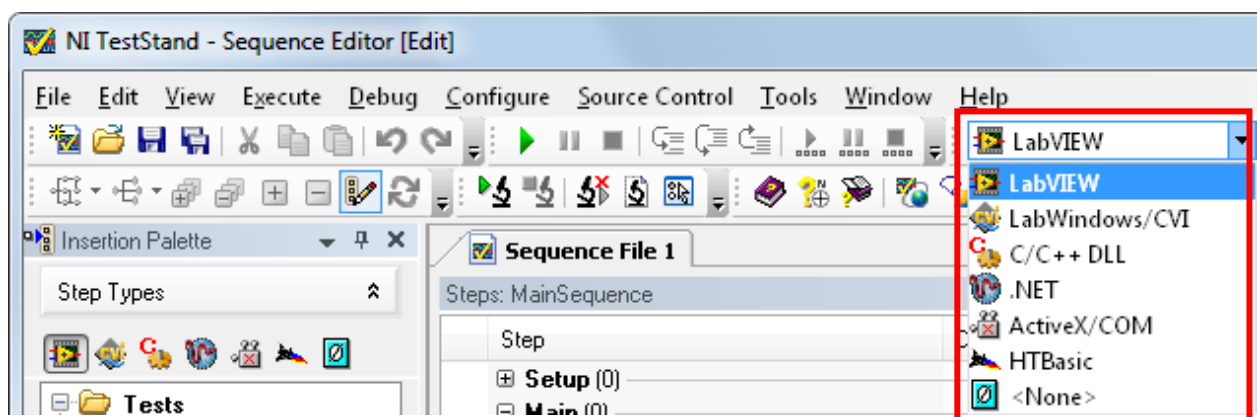

Figure 1-6. Adapter Ring Control
3. In the **Adapters** menu, show in Figure 1-6, select the **LabVIEW** adapter. Now, any new steps you create which require a code module (such as the **Action** or **Numeric Limit Test** steps) will be configured to call a LabVIEW VI code module.